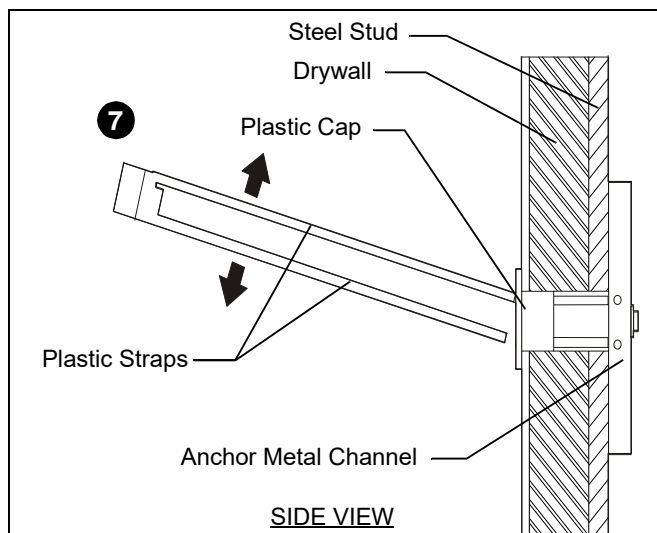

Figure 15
7. Snap off plastic straps on anchor at wall by pushing side to side, snapping off straps level with flange of plastic cap. (See Figure 15)